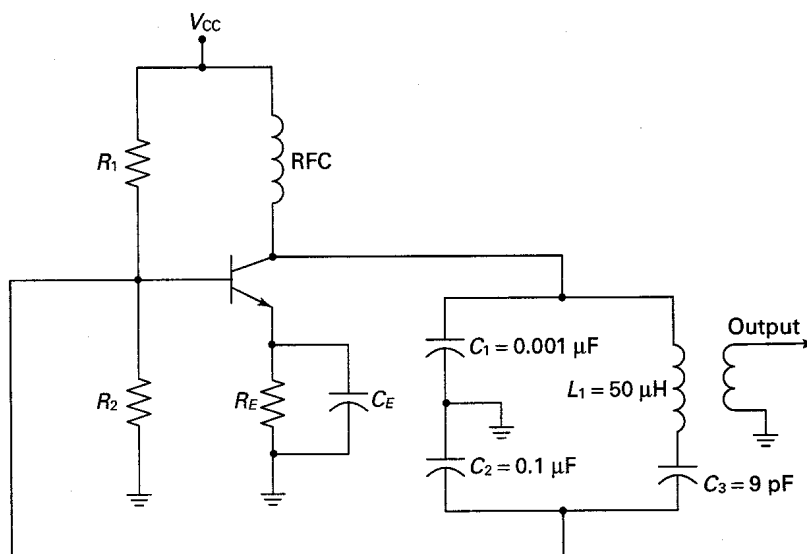

Fig. 2-24
- 2.10** Refer to Fig. 2-24. Calculate the following: (a)  $f_{\text{osc}}$ , (b) the feedback fraction  $B$ , (c) the minimum value of  $A_V$  required to sustain oscillations.
Actually, since a common-emitter amplifier is used in Fig. 2-24, both  $A_V$  and  $B$  must be negative quantities. This means the amplifier and feedback network must provide a total phase shift of  $360^\circ$ .